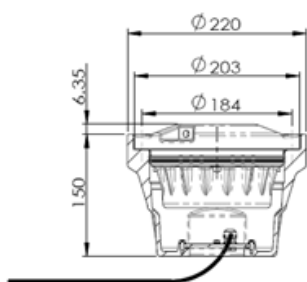

Figure 3-1
- Directly mounted on the 8 inches shallow base (Figure 3-1).